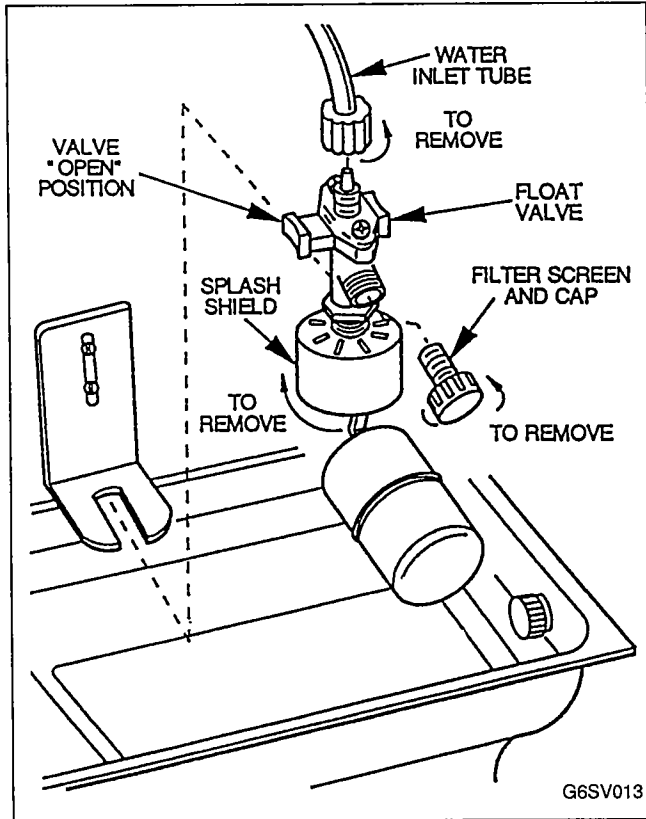

FIGURE 9. FLOAT VALVE REMOVAL
REMOVE FLOAT VALVE (Figure 9)
6. Shut off water at float valve. See Figure 9.